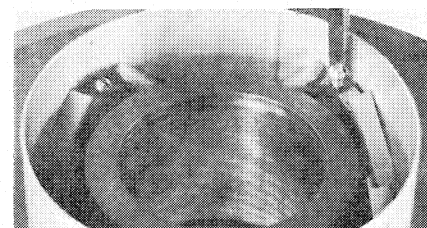

Fig. 8
3. Insert new cam pads, ensuring that angled clips are firmly seated in cam pad slots. See Fig. 8.